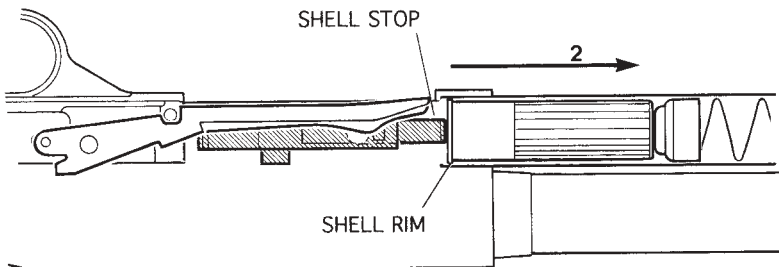

Figure 7
2. Continue carefully pushing the shotshell into the magazine tube until the rim of the shell is past the shell stop (Figure 7). The shell stop will “snap” over the rim of the shell. Repeat this sequence to load each additional shell.